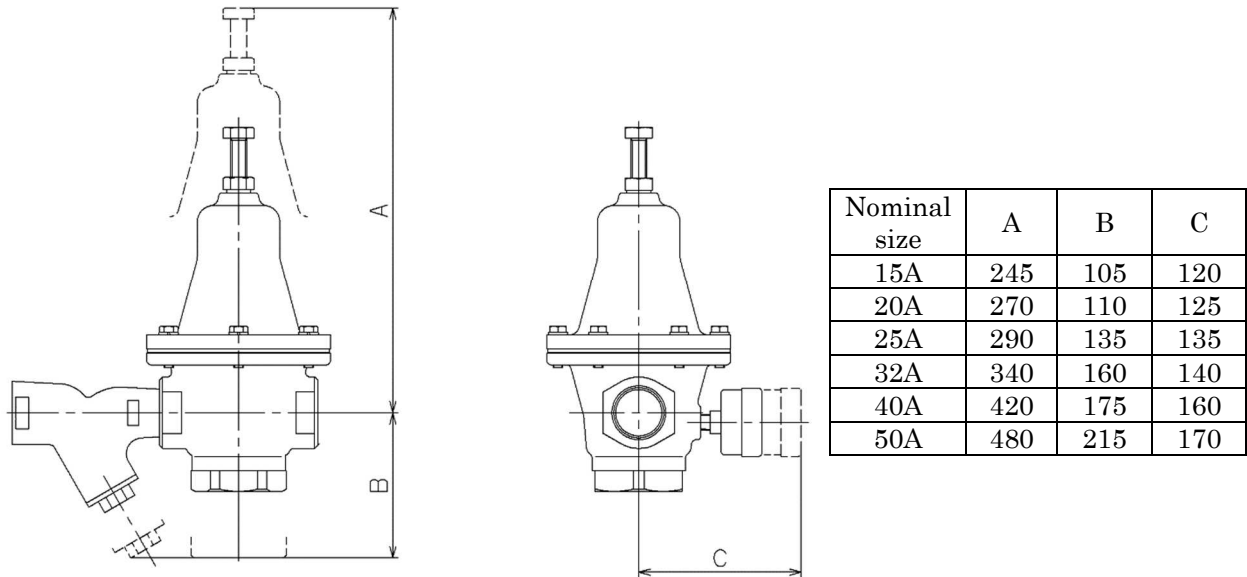

Fig.1
- (10) Secure the necessary maintenance space at the installation site of the pressure reducing valve. (See Fig.1)